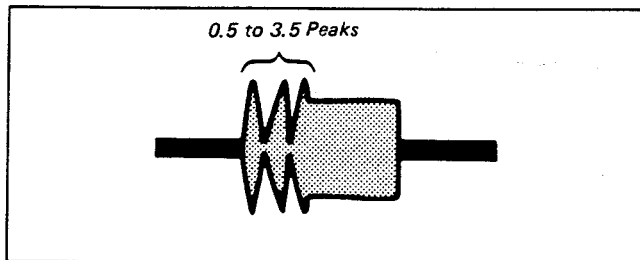

Fig. 4-5
- 2) Confirm that RF waveform on the entrance side has 0.5 to 3.5 peaks in this condition. If not, adjust as follows. (Fig. 4-5)